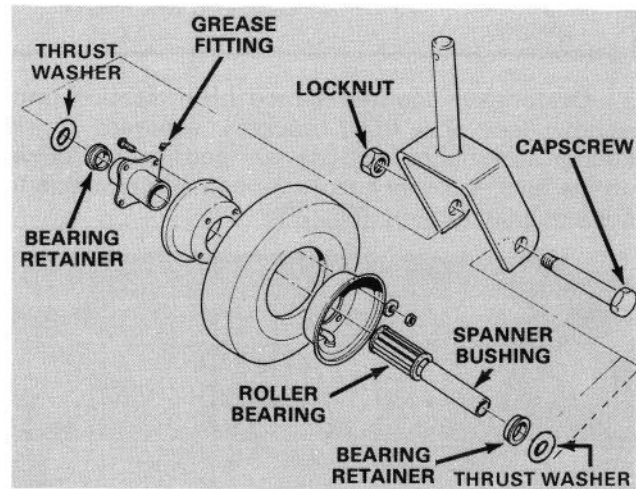

Figure 24
1. Remove locknut from capscrew holding castor wheel assembly between castor fork (Fig. 24). grasp castor wheel and slide capscrew out of fork.
**Note:** Account for the two thrust washers (Fig. 24).
2. Tip wheel to the side and allow spanner bushing to fall out (Fig. 24).